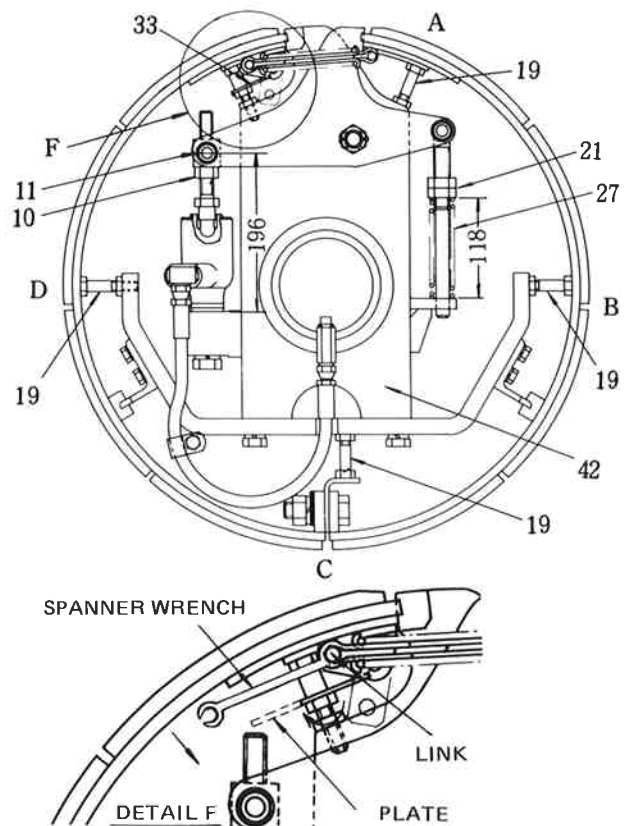

Fig. 16 Third Drum Clutch Adjustment
- 5) Remove hydraulic hoses connected to the clutch swivel, cylinder (41) to drumshaft. Cap the hoses.
- 6) Loosen jam nuts (20) and turn in adjusting bolts (19 and 33) until there is adequate clearance for removal of clutch bands (5).
- 7) Remove spring (35) from clutch band (5). Before removal of spring (35), loosen nut (20) and turn plate (36) left to rotate link (32) with spanner wrench. (see Figure 16.)
- 8) Remove nut (5-11), lockwasher (5-12), spacer (5-7, 5-8 and 5-9), capscrew (5-10) and remove clutch band (5). The clutch band may now be removed and relined.
- 9) Remove nut (17), lockwasher (18), and washer (16) from rod (26) and lever (3,4). Remove the rod and spring (27).
- 10) Remove cotterpin (37), nut (12), bolt (13) and
To adjust the third drum clutch, proceed as follows (See Fig. 16).
If upon inspection, it is revealed the pawl is damaged in any way, the pawl must be replaced. Also, if the mechanism does not function as described above, it must be adjusted. To remove and install a pawl, proceed as follows (see Figure 16):